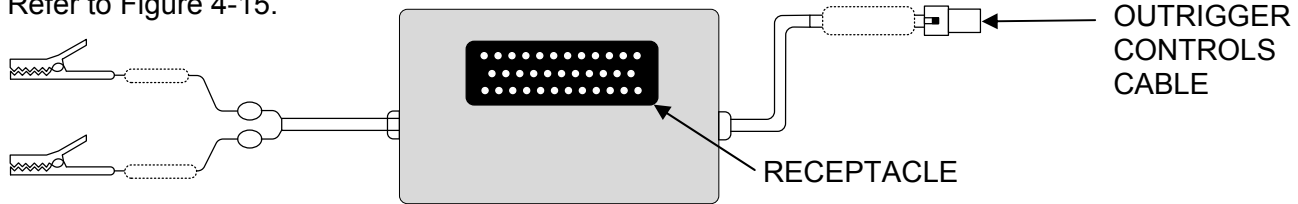

Figure 4-15. Manual Outrigger Control Wire Harness
Refer to Figure 4-15.
- Plug it into the receptacle on the Manual Outrigger Control Wire Harness. Refer to Figure 4-15.
- Disconnect the wire harness from **C7 VALVE** on the hydraulic power unit and replace it with the Outrigger controls cable. Refer to Figure 4-15 and 4-17.